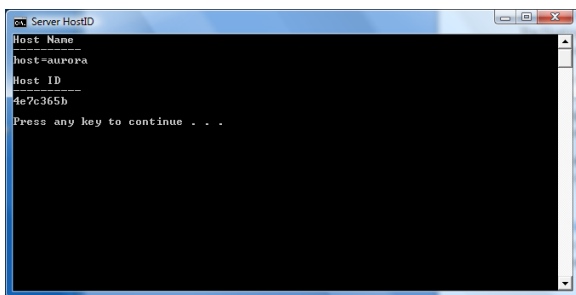

Figure 1.2. Display of Host Name and Host ID
1. On the **Windows Start Menu**, click **All Programs/PyroSim License Manager/Server HostID**. A command window will appear that displays the server's Host Name and Host ID, Figure 1.2.